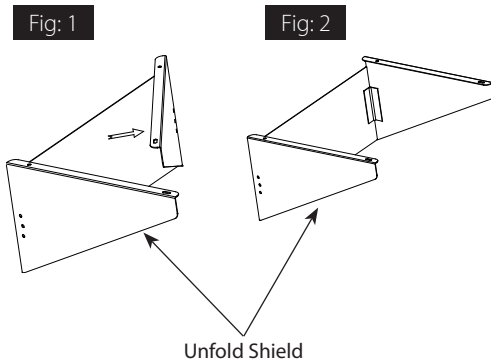

Fig: 3
2. Slide the **Shield** onto bottom of **Fixture** as shown in Fig. 3.